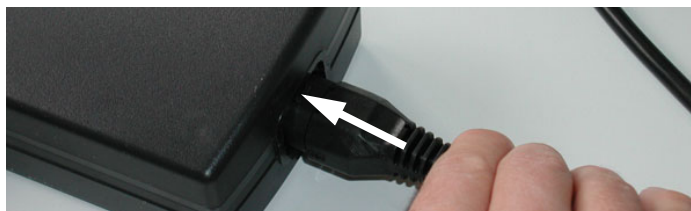

Figure 3-84 AC (main) Adapter connection
- 2.) Plug the power cable to the Voluson i / Voluson e AC Adapter like shown in Figure 3-84 below.